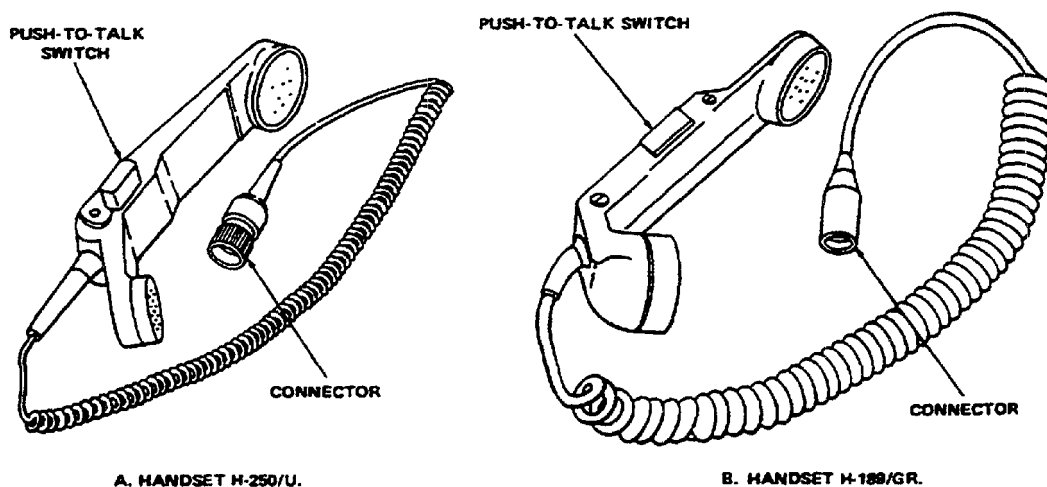

Figure D-5. Handsets H-189/GR and H-250/U
(6) Handset (Figure D-5). Either of the following handsets may be issued with the AN/PRC-77.